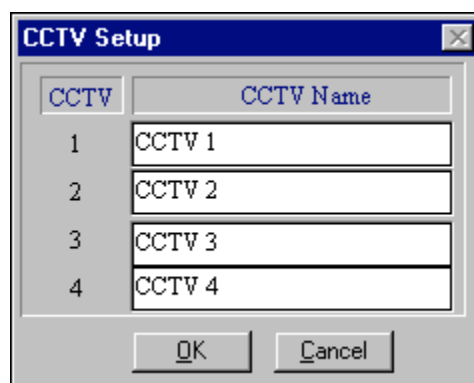

Figure 19.2 : CCTV Setup.
2. Upon selection, figure 19.2 appears.